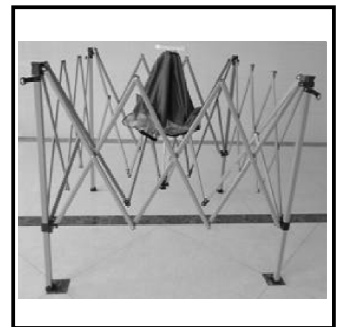

Fig. 3
- f) Gently lift one outer frame leg and pull open the frame partially until you extend the frame to a full arm's length-approx. 4 feet. (see Fig. 3)